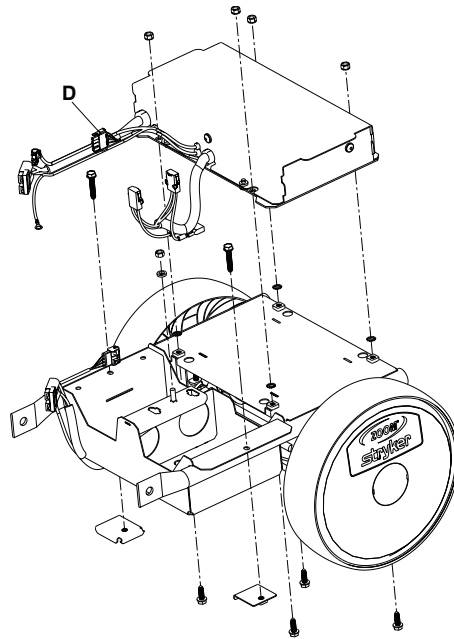

Figure 18 – Disconnect cable connectors at the foot end
12. Disconnect the black, red, and blue and white cable connectors (D) at the foot end patient right side of the product (Figure 18).